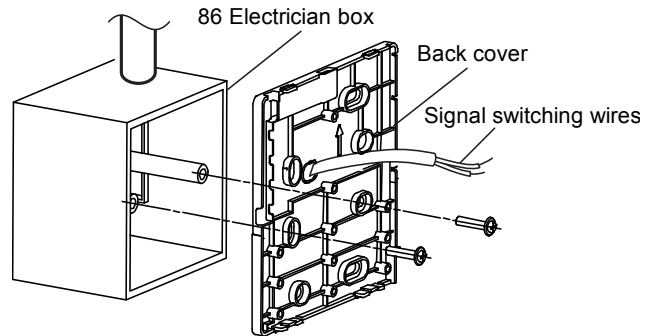

Figure 7.2
4) Adjust the length of two plastic screw bars in the accessory to be standard length from the electrical box screw bar to the wall. Make sure when installing the screw bar to the electrical box, make it as flat as the wall. (Fig.7.2)